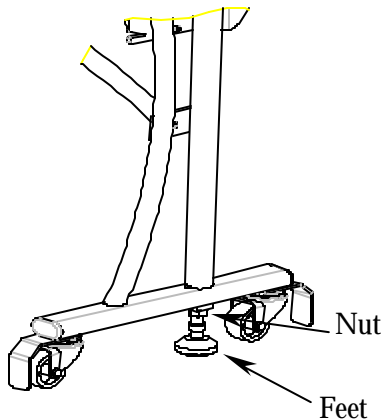

Figure 5
- Manually lock the adjustable foot with the nut. (Figure 5)